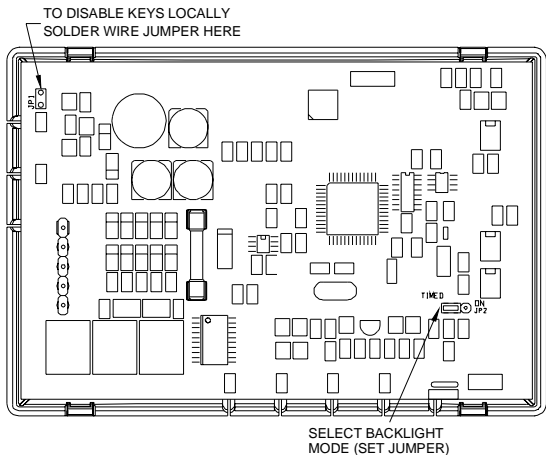

Figure 9
- 1) To configure the display backlight to turn on when a key is pressed, then back off 30 seconds later, set the "JP2" (Select Backlight Mode) jumper to the "TIMED" position (between the middle and left pin on the connector) - **See Figure 9.**
- 2) To configure the display backlight to always be on, set the "JP2" (Select Backlight Mode) jumper to the "ON" position (between the middle and right pin on the connector) - **See Figure 9.**
- 3) To configure the display backlight to never come on (always off), remove the "JP2" (Select Backlight Mode) jumper from the connector - **See Figure 9.**
The keys on the thermostat can be disabled to prevent anyone from controlling the thermostat locally. To disable the keys, solder a wire jumper across "JP1" (two holes on the circuit board) - **See Figure 9.**